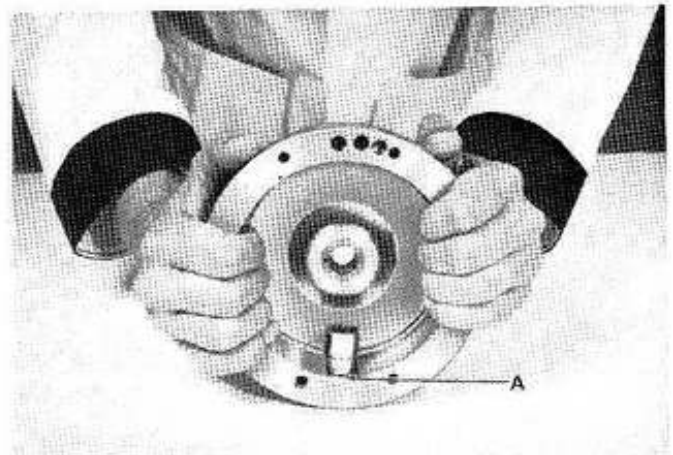

Figure 66. Flywheel Magnetic Strength Test.
- f. Magnetic strength of the flywheel should now be tested. (See Figure 66.) Place a 1/2" socket on the magnet and shake as indicated. Replace the flywheel if the socket will not hold to the flywheel.